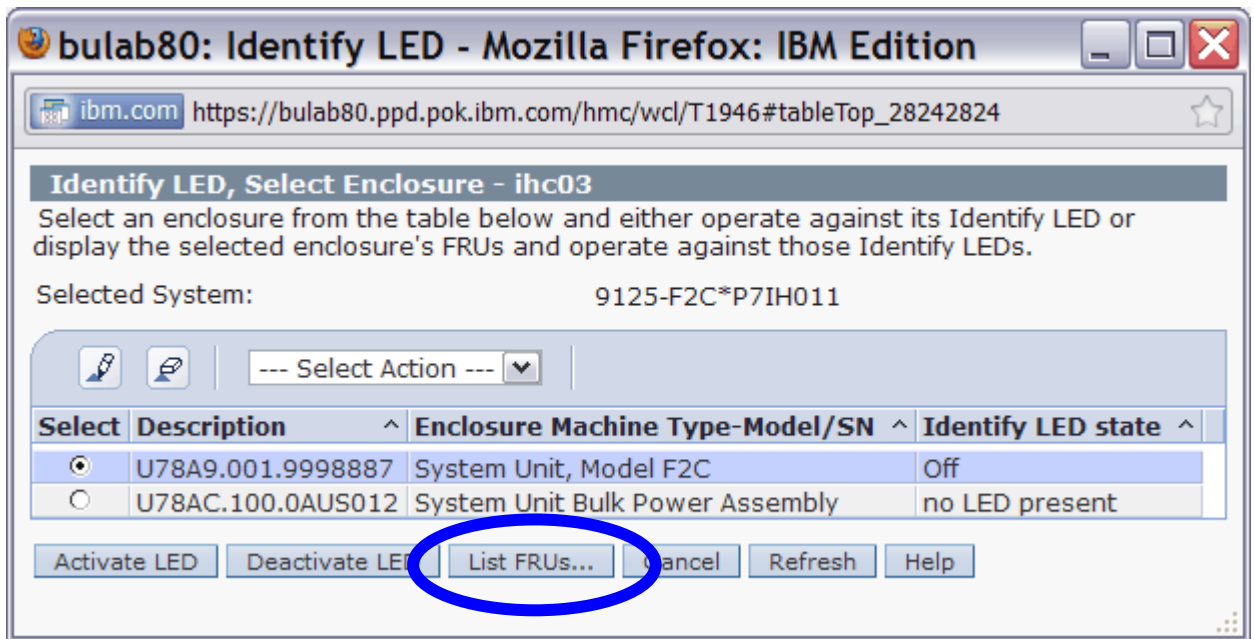

Figure 9 System Unit, Model F2C Selection – List FRUs...
STEP 11 In the window titled **Identify LED, Select Enclosure** *select System Unit, Model F2C* then *click* the **List FRUs...** button (see **Figure 9**). This brings up the window **Identify LED, Select Location** which you will use in the next step.